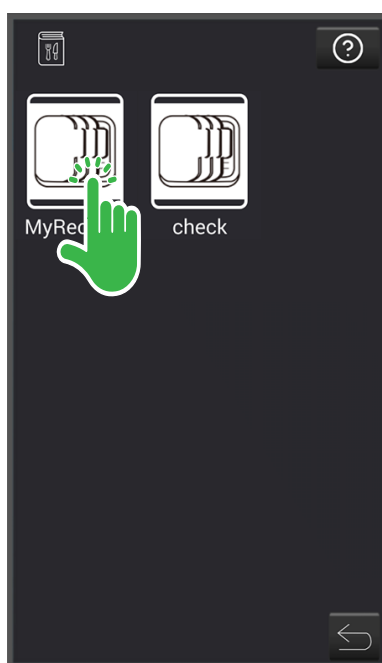

Fig. 33
- On the **Recipe Folder Selection Screen** (Fig. 33), touch the folder to save the recipe.